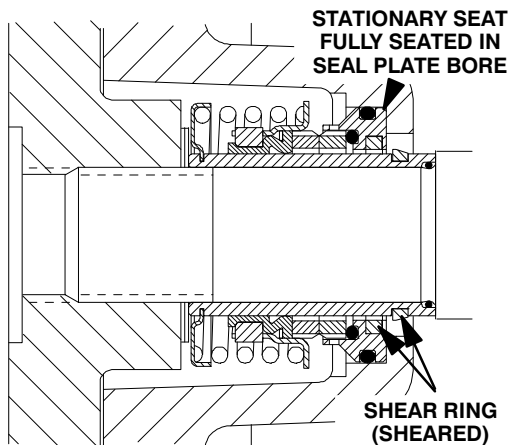

**Figure 6. Seal Partially Installed**
Clean and inspect the impeller as described in **Impeller Installation and Adjustment**. Install the full set of impeller shims (27) provided with the seal, and screw the impeller onto the shaft until it is seated against the seal (see Figure 6).